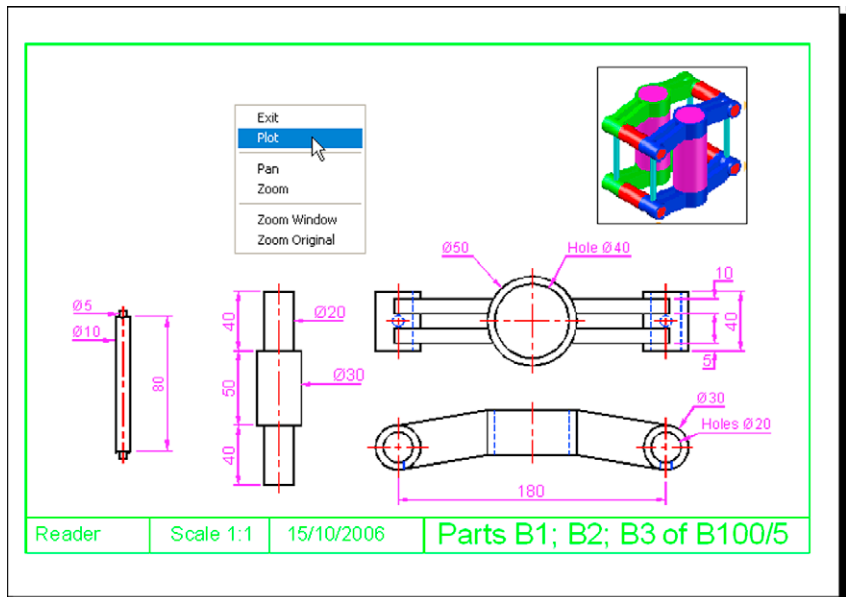

Fig. 19.11 Second example – Printing/Plotting
### Second example – Printing/Plotting (Fig. 19.11)
4. If satisfied with the preview (Fig. 19.11), *right-click* and in the menu which appears *click* the name **Plot**. The drawing plots.